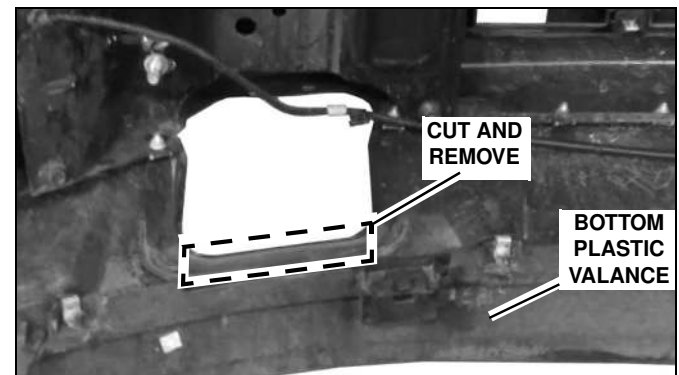

Figure 23
12. Unscrew and remove the bottom plastic valance from the bumper. Keep the bottom valance for reinstallation if the Mount Kit is removed. Then cut and remove the narrow lip of the plastic portion of the bumper directly below where the tow hooks protruded from. (See Figure 23)